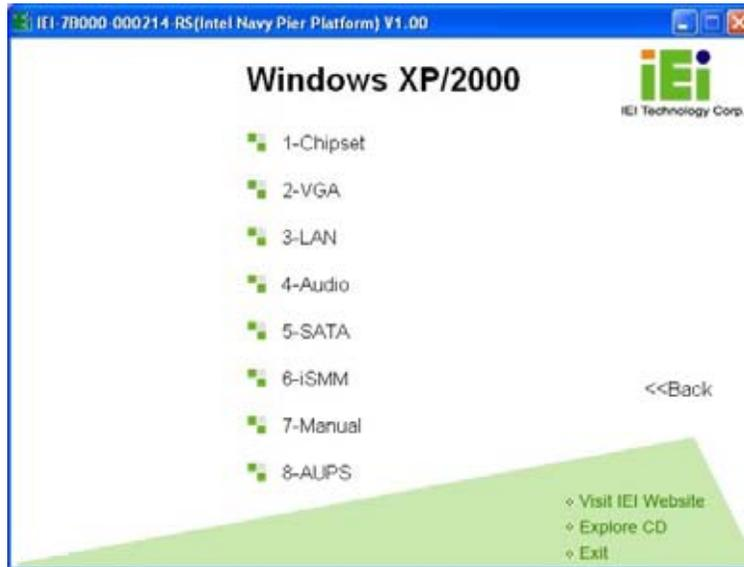

Figure 6-3: Drivers
Step 6: The list of drivers in Figure 6-3 appears.
Step 7: Access the driver list shown in Figure 6-3. (See **Section 6.2**)
Step 20: Access the driver list shown in Figure 6-3. (See **Section 6.2**)
Step 36: Access the driver list shown in Figure 6-3. (See **Section 6.2**)
Step 46: Access the driver list shown in Figure 6-3. (See **Section 6.2**)